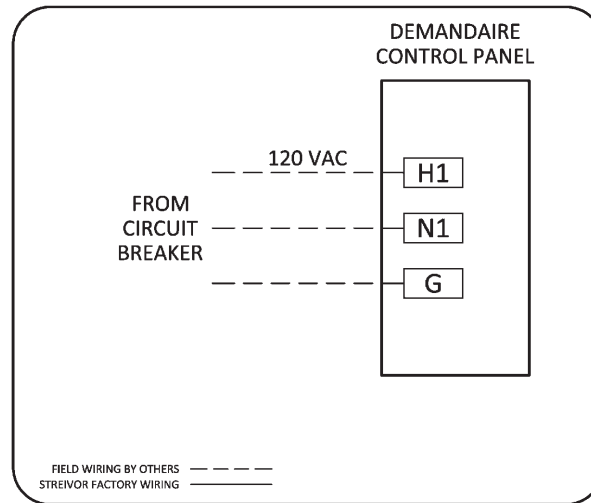

**FIGURE 14: Optional Modbus TCP Communication Wiring**
- A CAT5 or greater Ethernet communication cable may be connected to *Port X2* on the Network Switch in the control panel for Modbus TCP communication with Building Management System(s) (Figure 14).